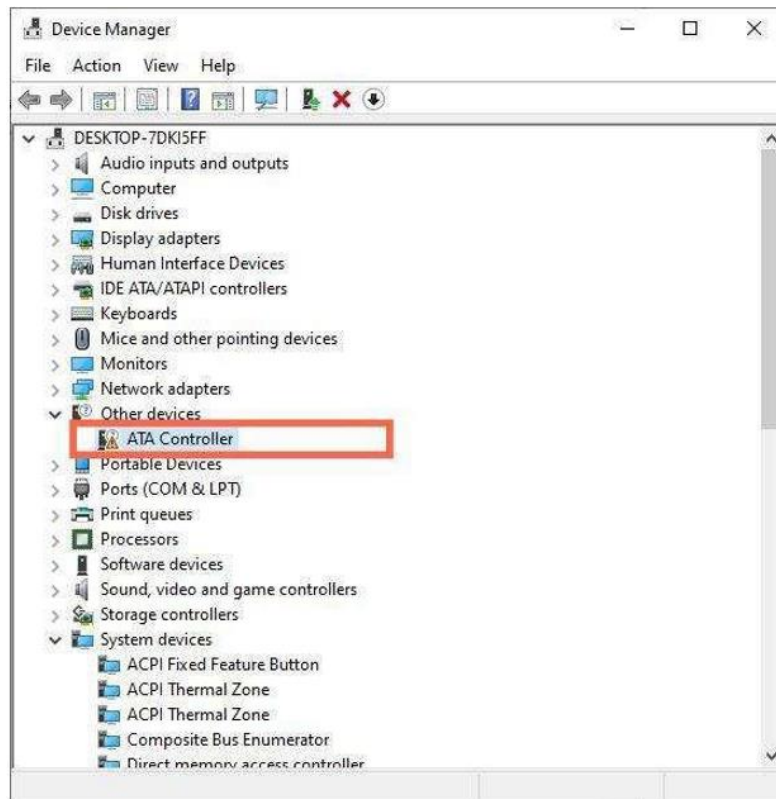

Figure 3.31. Device Manager
1. Open **Device Manager**, which shows the connected PCIe devices, as shown in Figure 3.31.